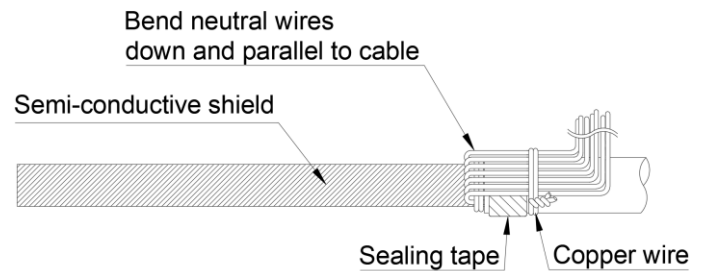

Fig.5
- Use copper wire to secure neutral wires to cable jacket as shown in Fig.5.